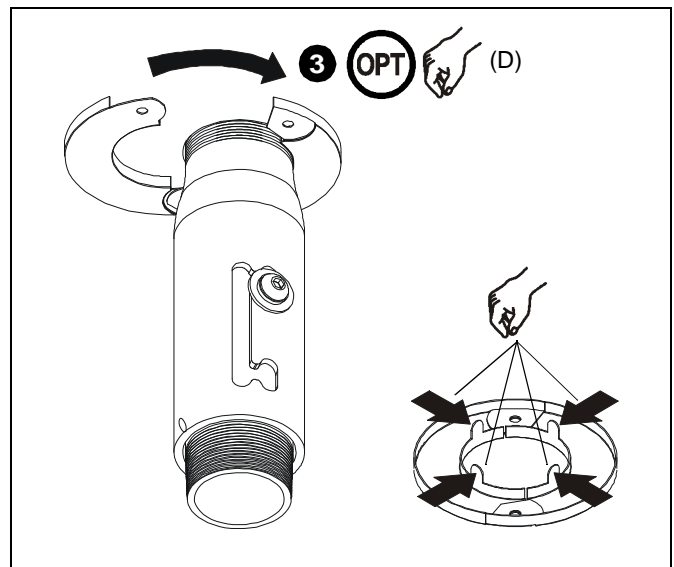

Figure 16
3. **CMA450 ONLY:** Install finishing ring (D) to extension column below ceiling tile (See Figure 16). If necessary, bend four tabs inward to secure ring to column.